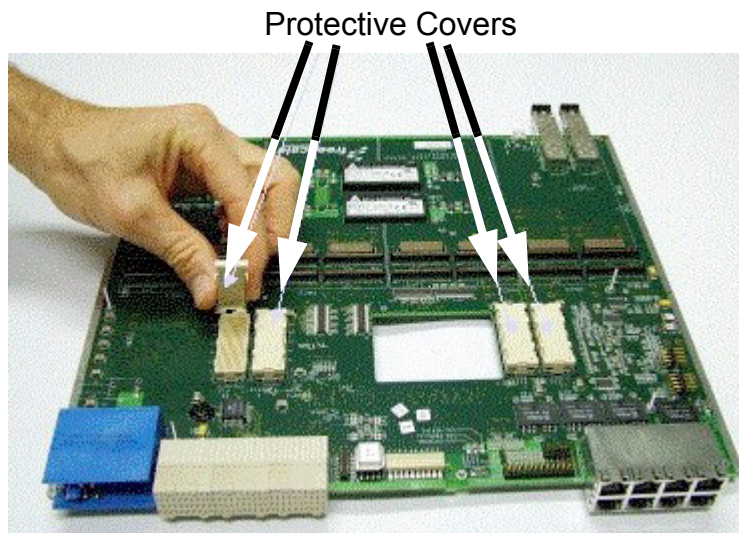

Figure 2-2 Remove Protective Covers from 300-pin connectors
2. Remove protective covers from the 300-pin connectors on the PIB board (see Figure 2-2).